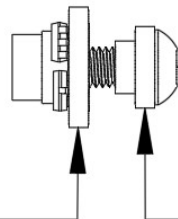

*Figure 5B*
- **Step 12:** Install the Top Panel to the case and secure it with M4 6mm BH x6 on the left, right and rear sides and secure the Top Logo to the front using M4 8mm BH x2 according to *Figure 5A* and *Figure 5B*.
- Step 15: Install the Radiator filter x2 to the top and front panels and the PSU filter to the bottom of the case according to *Figure 5A* and *Figure 5B*.
- Step 16: Optionally install the Touch Power Button (Horten Module) to the front of the case in the location marked in *Figure 5B* according to the setup in *Figure 5C*. If a Touch Power Button is not used then replace the module with an M3 nut or leave out this step completely.